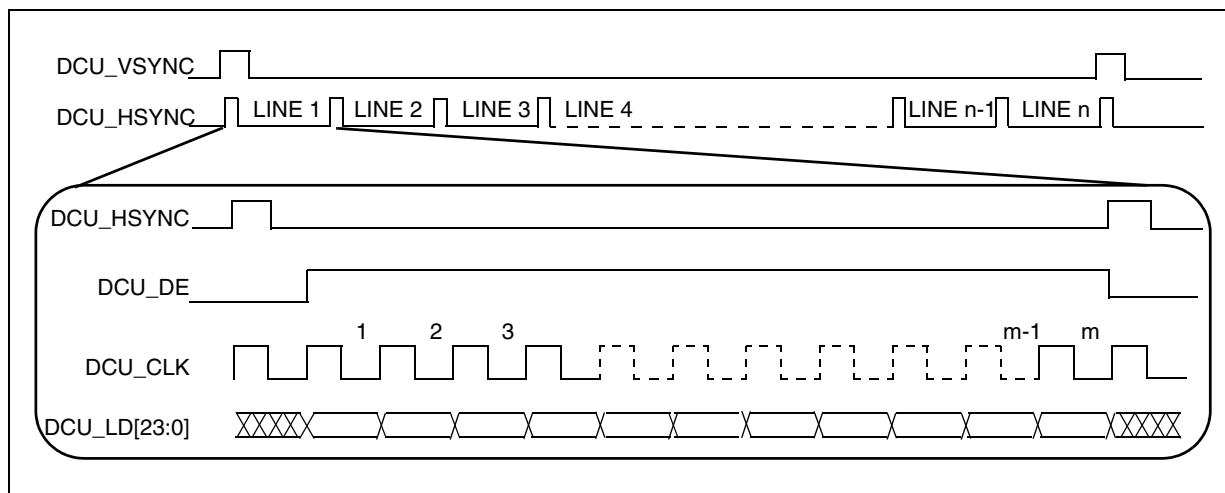

Figure 33. TFT LCD interface timing overview¹
Figure 33 depicts the LCD interface timing for a generic active matrix color TFT panel. In this figure signals are shown with positive polarity. The sequence of events for active matrix interface timing is:
1. In Figure 33, the “DCU_LD[23:0]” signal is an aggregation of the DCU’s RGB signals—DCU_R[0:7], DCU_G[0:7] and DCU_B[0:7].